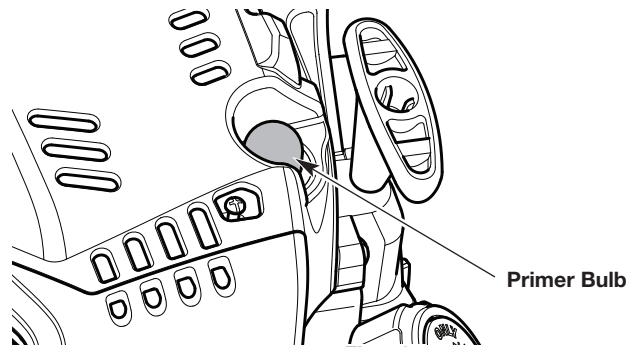

Fig. 18
3. Slowly press and release the primer bulb **10 times** (Fig. 18).